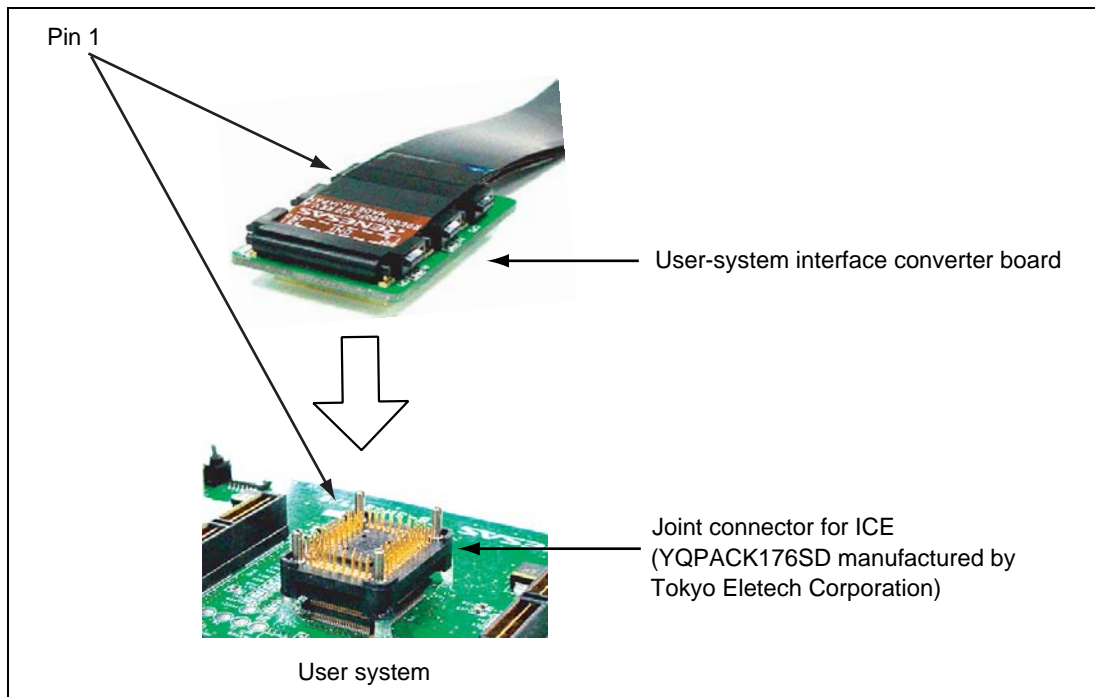

**Figure 5 Connecting the User System Interface Board to the EV-Chip Unit**
2. Align the connectors on the board with those on the EV-chip unit according to their numbers (figure 5).